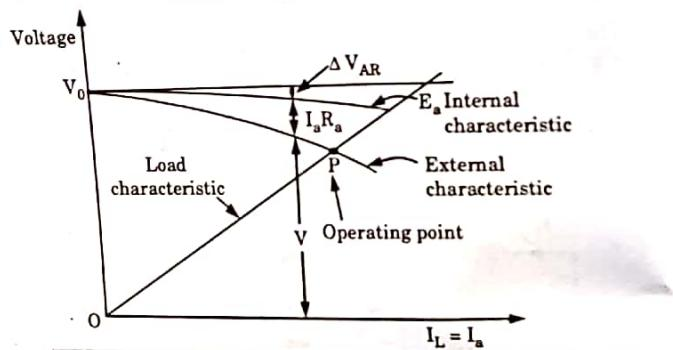

Fig. 2.15.2. Characteristics of a separately excited DC generator.
6. If there were no armature reaction, the generated voltage  $V_0$  would be constant as shown by a straight line in Fig. 2.15.2. Because of the demagnetizing effect of armature reaction there is a voltage drop  $\Delta V_{AR}$ . The internal characteristics ( $E_a - I_a R_a$ ) is shown in Fig. 2.15.2.